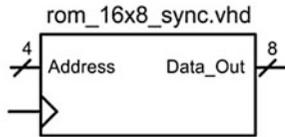

Fig. 11.3
- 11.2.2 Design a VHDL model for the 16×8 , synchronous, read-only memory system shown in Fig. 11.3. The system should contain the information provided in the memory map. Create a test bench to simulate your model by reading from each of the 16 unique addresses and